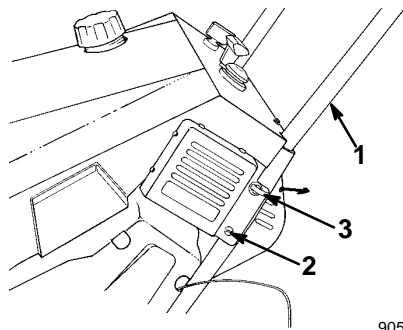

Figure 4
- Remove the tie that secures the control cable to the lower handle (Fig. 4).
- Secure the left side of the handle with a machine screw, an eyebolt, and a spacer as shown in Figure 4.
- Route the control cable through the eyebolt on the left side of the snowthrower (Fig. 4).